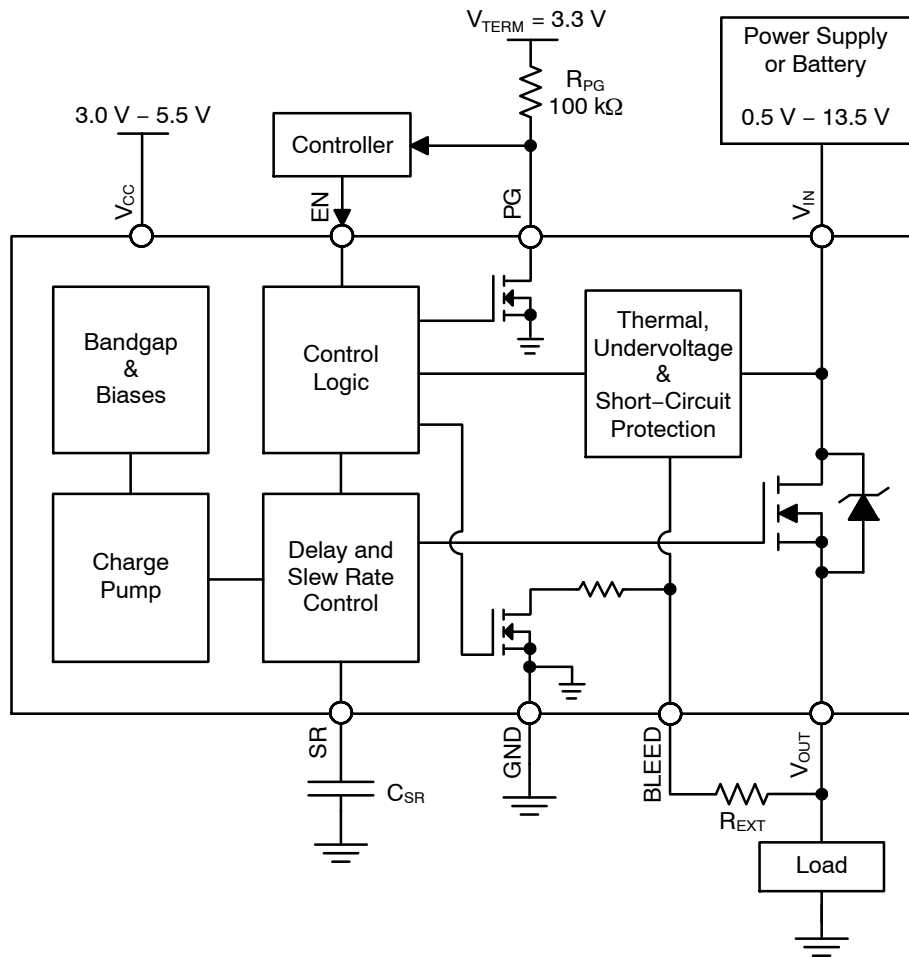
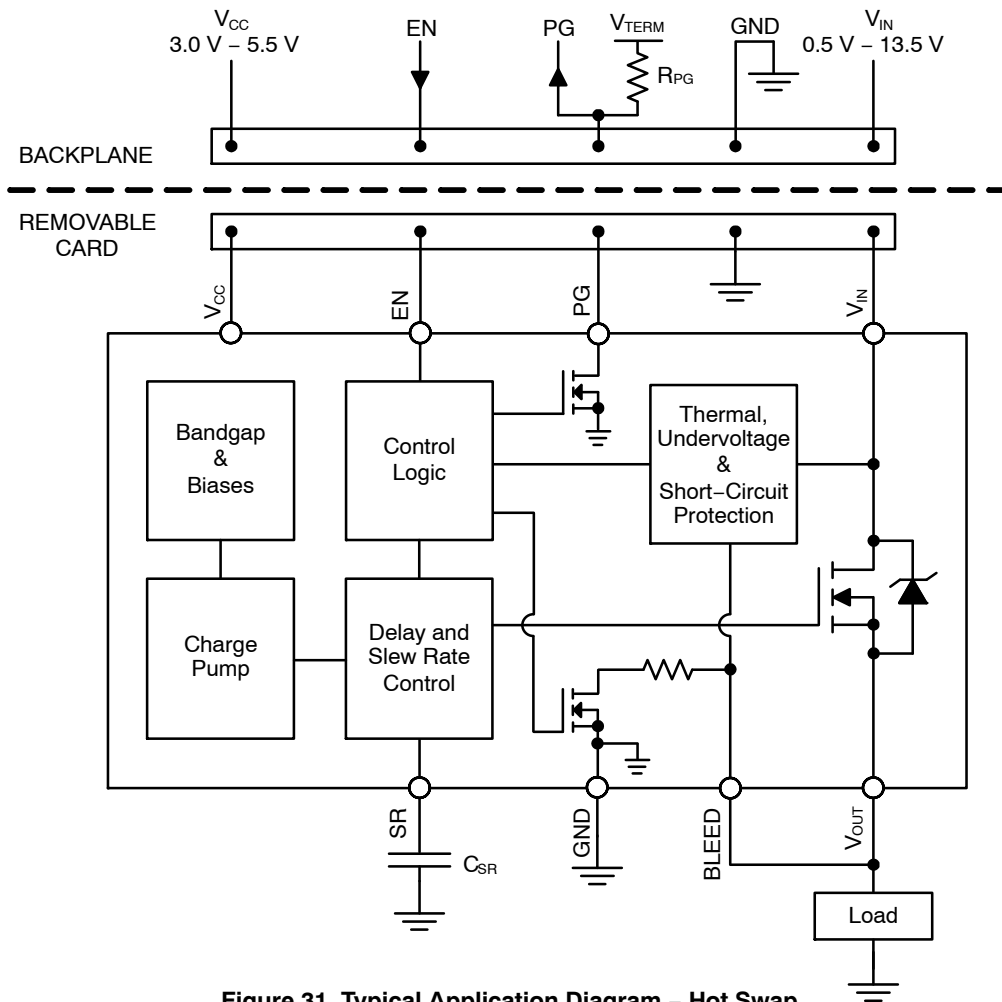

Figure 30. Typical Application Diagram - Load Switch
Figure 31. Typical Application Diagram - Hot Swap
It is required that the BLEED pin be connected to V_{OUT} either directly (as shown in Figure 31) or through an external resistor, R_{EXT} (as shown in Figure 30). R_{EXT} should not exceed 1 kΩ and can be used to increase the total bleed resistance.
The NCP45560 devices have a power good output (PG) that can be used to indicate when the gate of the MOSFET is fully charged. The PG pin is an active–high, open–drain output that requires an external pull up resistor, R_{PG}, greater than or equal to 1 kΩ to an external voltage source, V_{TERM}, compatible with input levels of other devices connected to this pin (as shown in Figures 30 and 31).
The slew rate can be decreased with an external capacitor added between the SR pin and ground (as shown in Figures 30 and 31). With an external capacitor present, the slew rate can be determined by the following equation:
Once active, the circuitry monitors the difference in the voltage on the V_{IN} pin and the voltage on the BLEED pin. In order for the V_{OUT} voltage to be monitored through the BLEED pin, it is required that the BLEED pin be connected to V_{OUT} either directly (as shown in Figure 31) or through a resistor, R_{EXT} (as shown in Figure 30), which should not exceed 1 kΩ. With the BLEED pin connected to V_{OUT}, the short–circuit protection is able to monitor the voltage drop across the MOSFET.